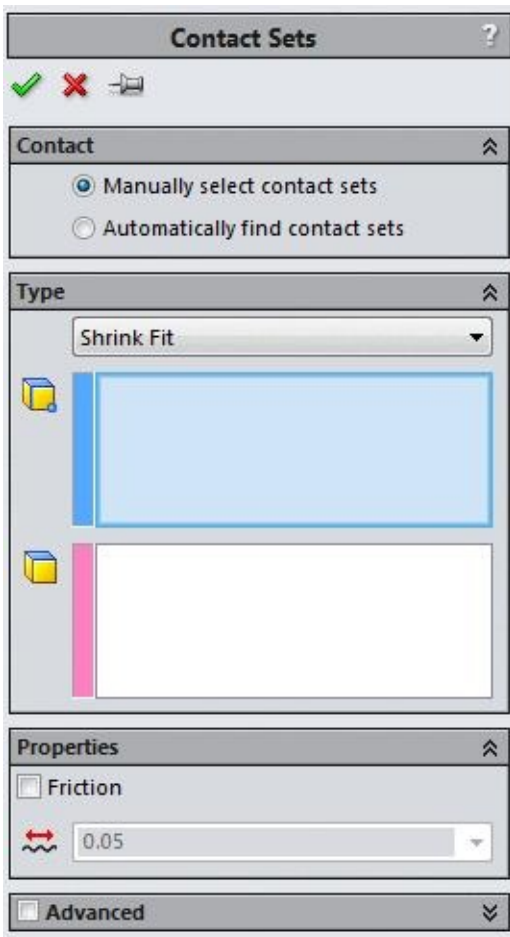

Figure-66. Options in Contact Sets PropertyManager on selecting Shrink Fit option
- Click on the **Shrink Fit** option from the drop-down in the **Type** rollout of **PropertyManager**. The **PropertyManager** will be displayed as shown in Figure-66.